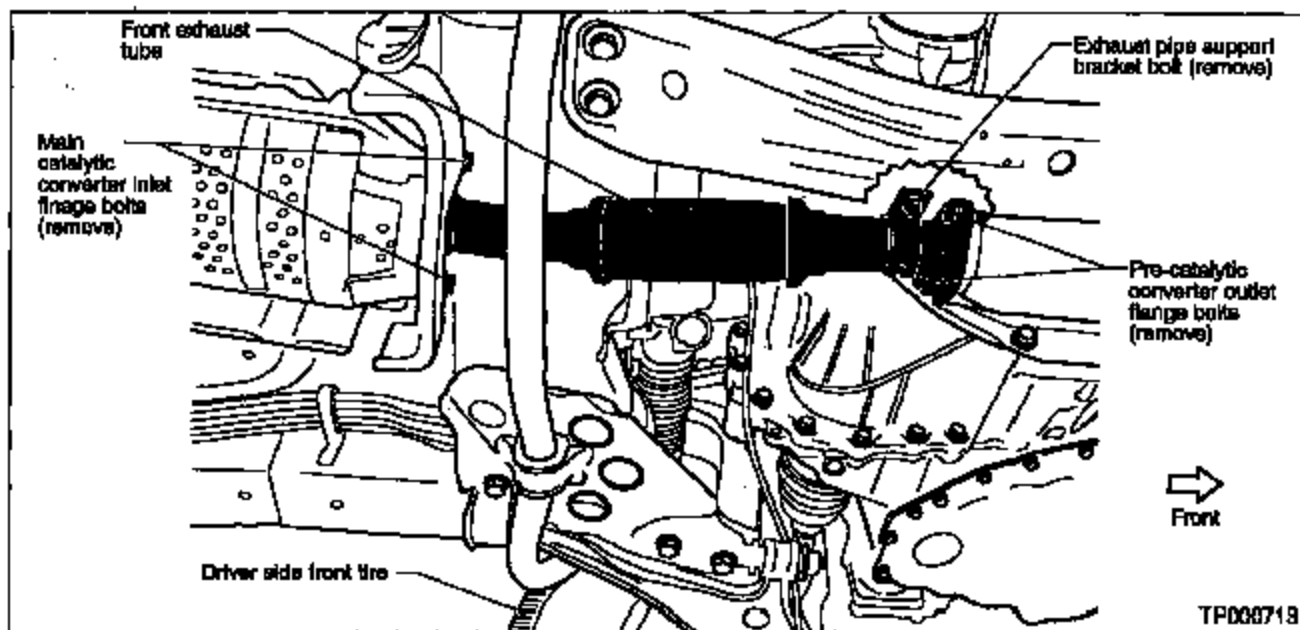

Figure 7
A. Remove and save the two bolts that secure the front exhaust tube to the pre-catalytic converter (see Figure 7).
B. Remove and save the two bolts that secure the front exhaust tube to the main catalytic converter (see Figure 7).
C. Remove the bolt that secures the front exhaust tube support bracket to the vehicle (see Figure 7).
6. Re-install the two bolts that secure the front exhaust tube to the main catalytic converter (see Figure 7). Tighten the bolts to 43.1 – 54.9 Nm (4.4 – 5.6 kg-m, 32 – 41 ft-lbs).
7. Re-install the two mounting bolts that secure the front exhaust tube to the pre-catalytic converter (see Figure 7). Tighten the bolts to 60 – 70 Nm (6.1 – 7.1 kg-m, 44 – 52 ft-lbs).
8. Re-install the bolt that secures the exhaust tube support bracket to the vehicle (see Figure 7). Tighten the bolt to 20.6 – 26.5 Nm (2.1 – 2.7 kg-m, 15.2 – 19.5 ft-lbs).